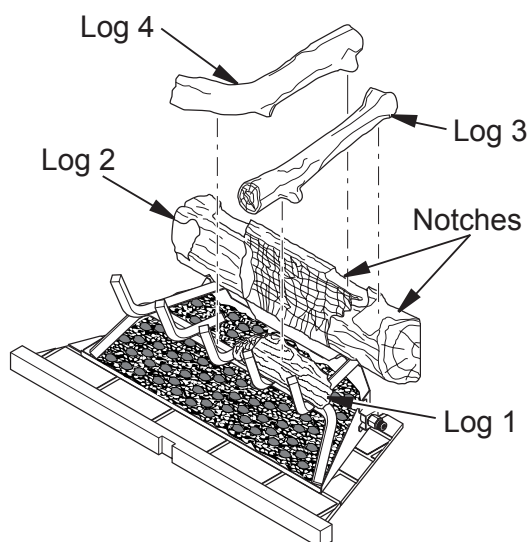
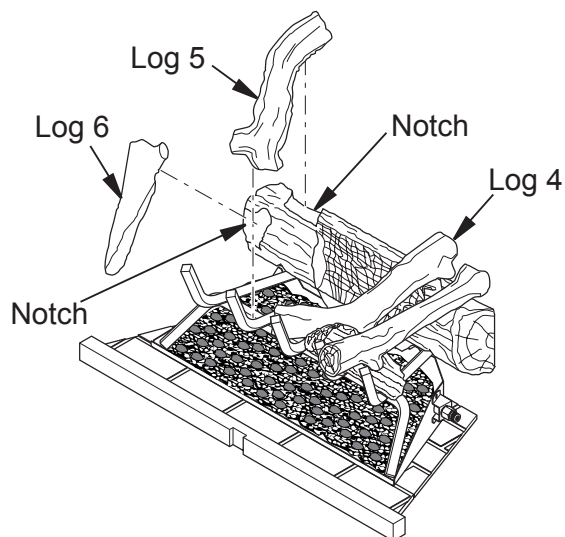
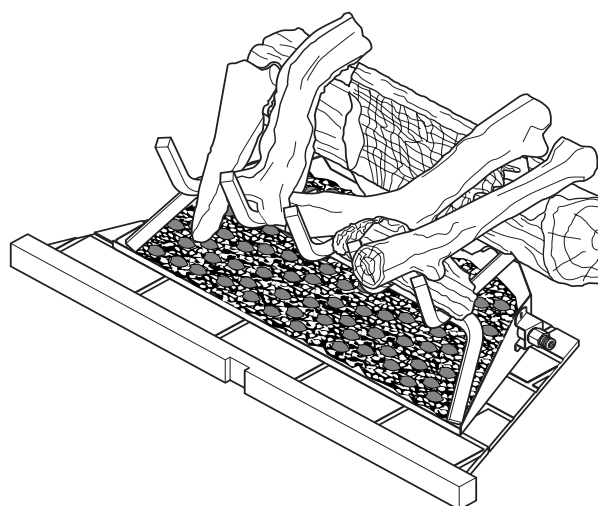

Figure 24 - Installing Logs 3 and 4
Figure 25 - Installing Logs 5 and 6
Figure 26 - Logs Installed for BRT4036TEN/TEP, BRT4336TEN/TEP and BRT4536TEN/TEP Models
3. Place log 3 into notch on log 2, resting front end on top of log 1 (see Figure 24).
4. Place upper end of log 4 into notch on log 2 as shown in Figure 24. Rest lower end of log 4 onto middle grate finger as shown in Figure 25.
5. Place upper end of log 5 into notch on left of log 2 (see Figure 25). Rest lower end of log 5 on grate as shown in Figure 26.
6. Insert lower end of log 6 between first two grate fingers as shown in Figure 26 and position upper end of log 6 into notched area on front of log 2 as shown in Figure 26.